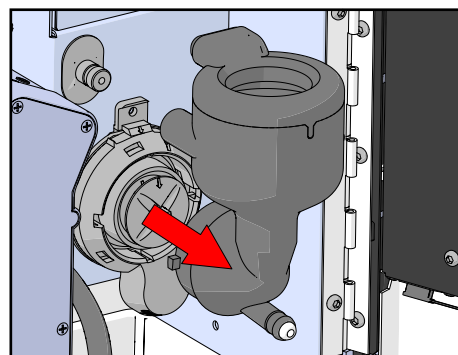

Figure 49.
6. Pull the mixer house and the suction ring forward so they detach from the mixer plate. Separate them from each other (see Figure 49+50).